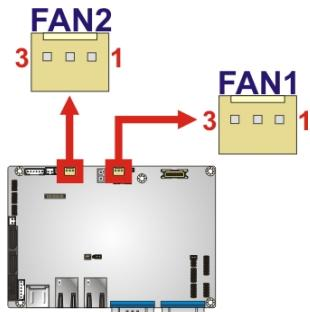

Figure 3-6: Fan Connector Locations
**CN Label:** FAN1, FAN2**CN Type:** 3-pin wafer**CN Location:** See Figure 3-6**CN Pinouts:** See Table 3-6